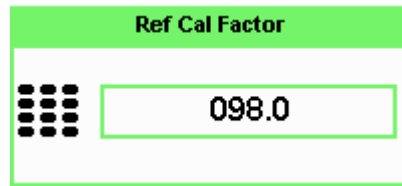

Figure 6-3 Reference Calibration Factor pop-up window
- 4 To change the settings, press the channel **REF CF**. The reference calibration factor pop up window is displayed as shown in Figure 6-3. Use the numeric keypad to enter the required value in the **Ref Cal Factor** pop-up menu.